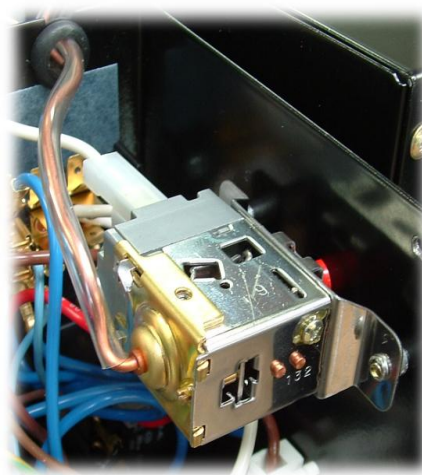
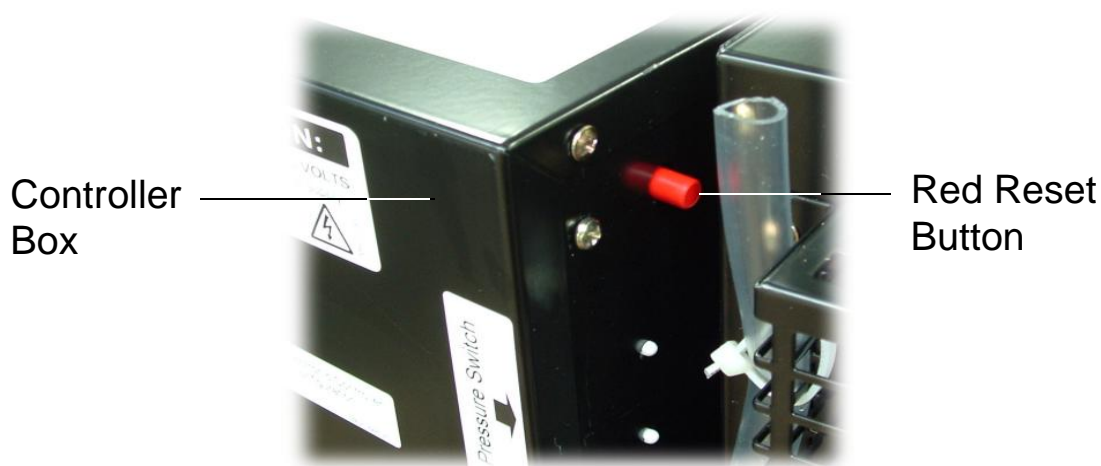

Figure 32:
Figure 33: High Pressure Switch Reset Button
The high pressure switch is mounted inside the controller box (see Figure 32 below) and is recognisable by the red reset button on the right hand side of the box (see Figure 33 on the next page).
4. Reset the high pressure switch by pressing the red reset button on the side of the controller box (see Figure 33 below).